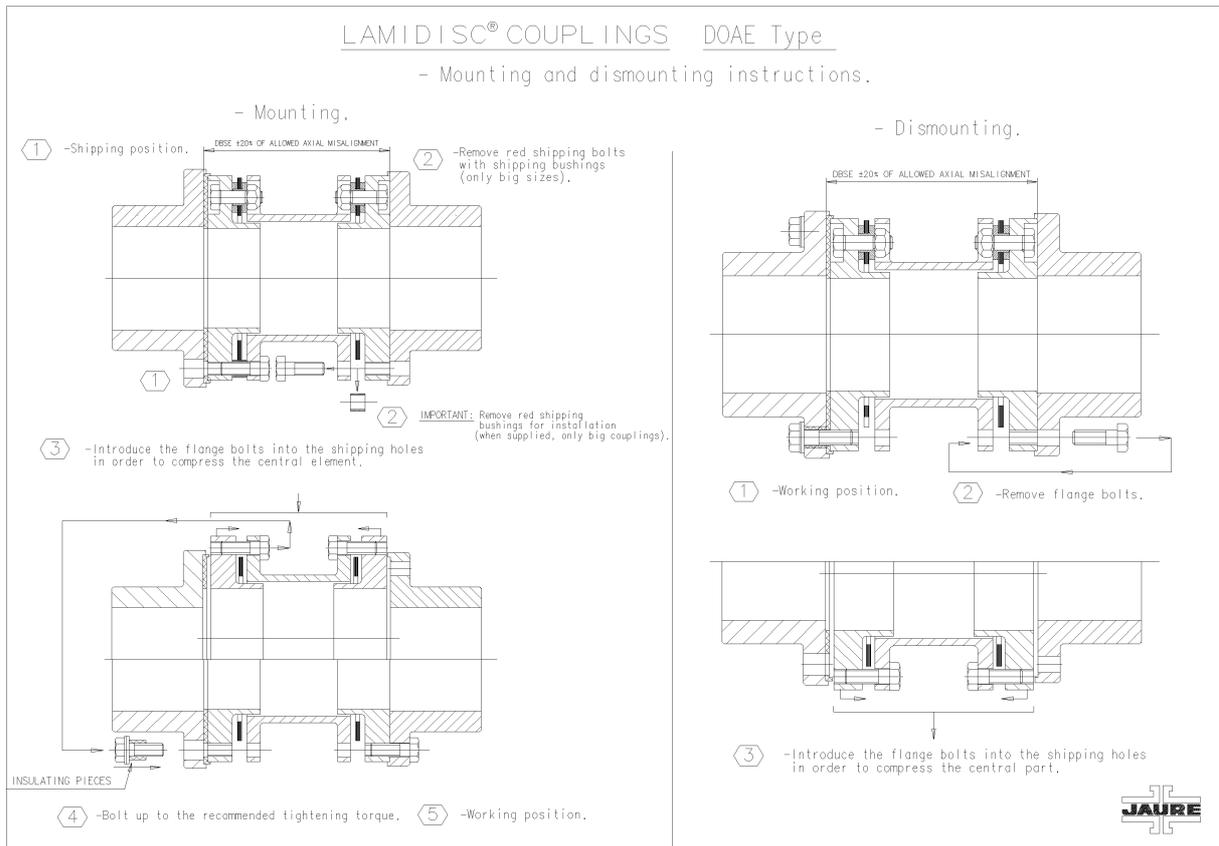
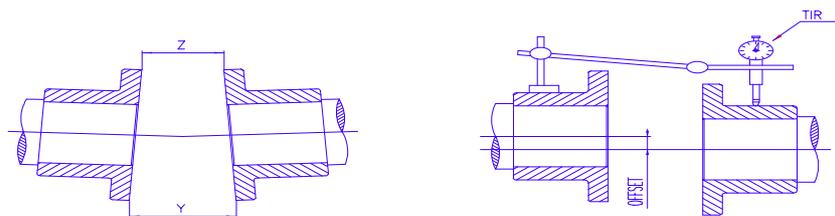

Fig. 2
Fig. 3
- Before proceeding with mounting of central element as shown in fig. 2, check the radial alignment between both shafts. This can be done by using a dial indicator on the shaft, and the max TIR should be minimum: less than the distance between the disc packs / 150 (**1mm** for OF-12240). The minimum the best for the coupling life. As shown in figure 3, place the clock magnetic base on a shaft with the indicator on the opposite shaft.